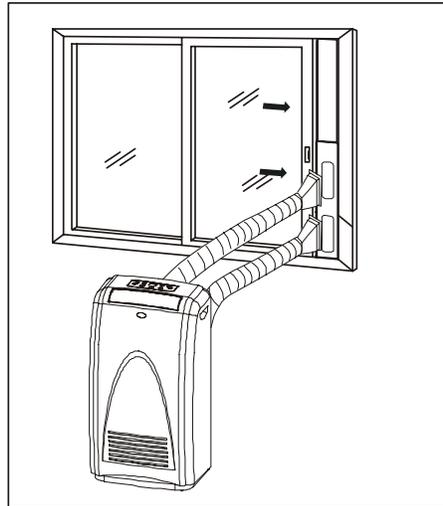

Fig.8.4
2. Install the flexible exhaust hose and adjustable window slider kit as depicted in Fig.8.4